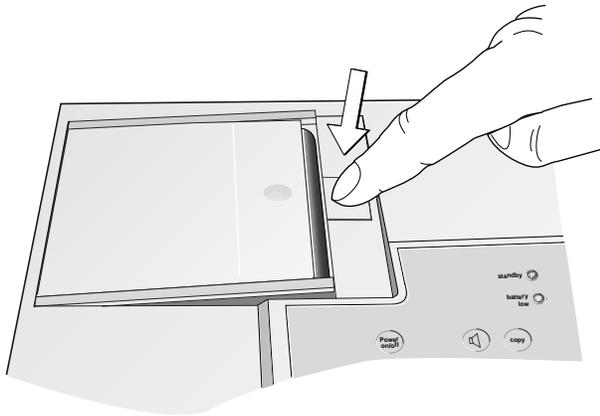

Figure 10-1. Opening the paper compartment
- Press on the spring lock of the paper compartment to open the door (Figure 10-1).